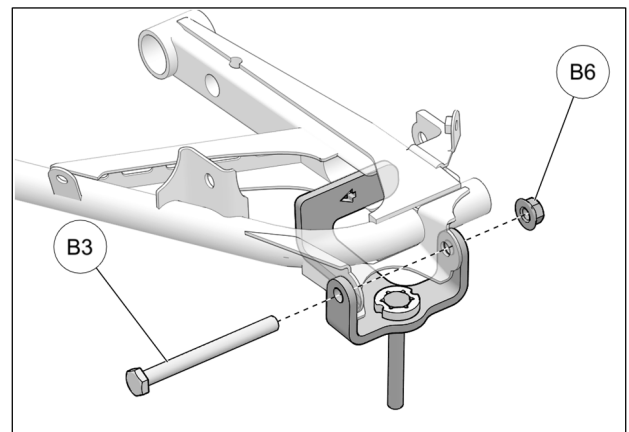

Fig. 8
7. Insert the new M10 bolt (**B3**) in the anchor bracket, through the lower suspension arm and the wheel hub. Thread the M10 nut (**B6**) on the bolt. Tighten assembly to 50 N•m [37lb•ft] of torque. See Fig. 8